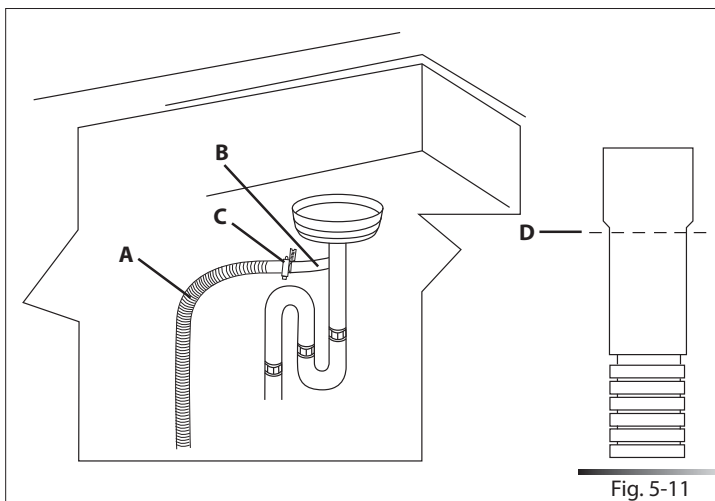

Fig. 5-11
1. Connect the dishwasher drain hose (ref. A fig. 5-11) to the "T" union (ref. B fig. 5-11) of the drain circuit using a 38 to 50 mm (1-1/2 to 2") screw clamp\* (ref. C fig. 5-11); if necessary, cut the end of the dishwasher drain hose (ref. D fig. 5-11) (do not cut the corrugated section).